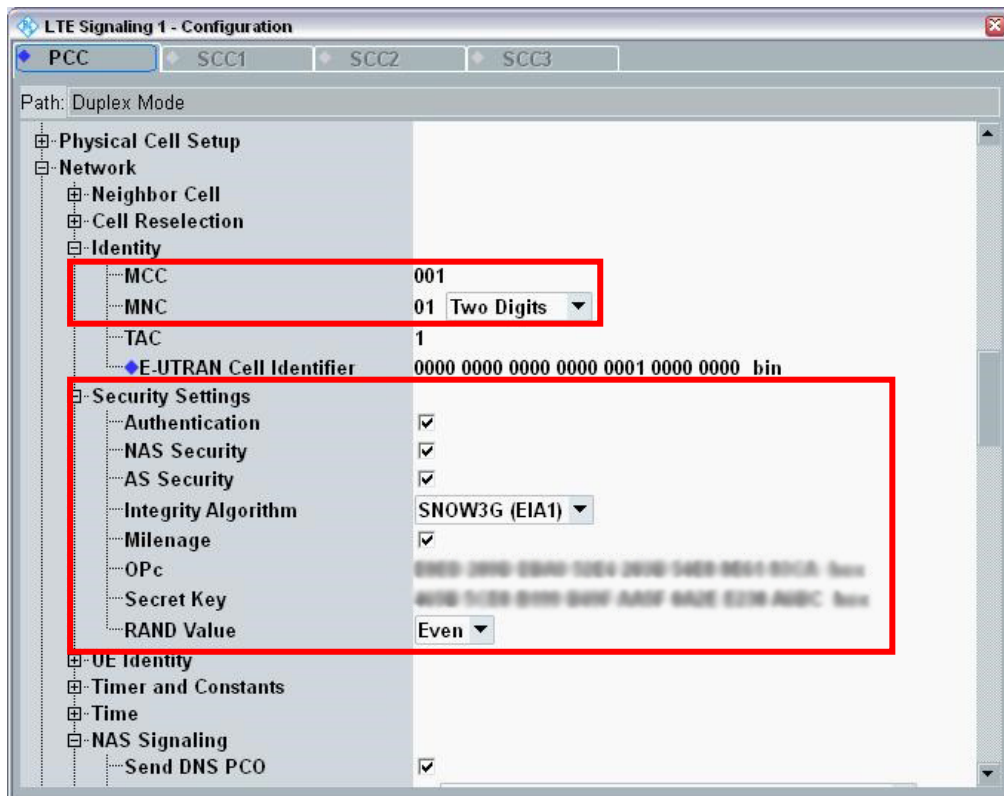

Figure 16: MCC/MNC Settings
5. The proper values for **Network** → **Network Identity** → **MCC/MNC** (Figure 16) depend on the SIM card that is used. The Rohde & Schwarz test SIM card uses **MCC 001** and **MNC 01**.
6. The **Network** → **Security Settings** (Figure 16: MCC/MNC Settings) must match with the used SIM card. Refer to the technical data of the used sim card if in doubt. Set the security settings accordingly.